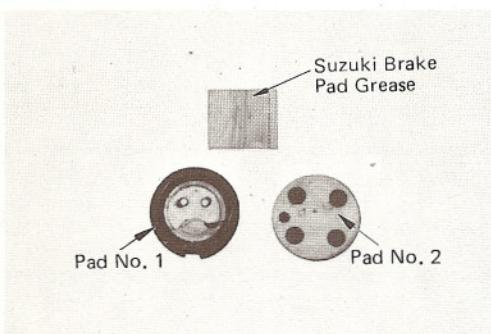

Fig. 4-2-4
- 5) Apply Suzuki Brake Pad Grease, which is provided as a component of Pad Set as shown in Fig. 4-2-4, onto the periphery and back plate of pad No. 1 as illustrated in Fig. 4-2-5 in a very thin layer.